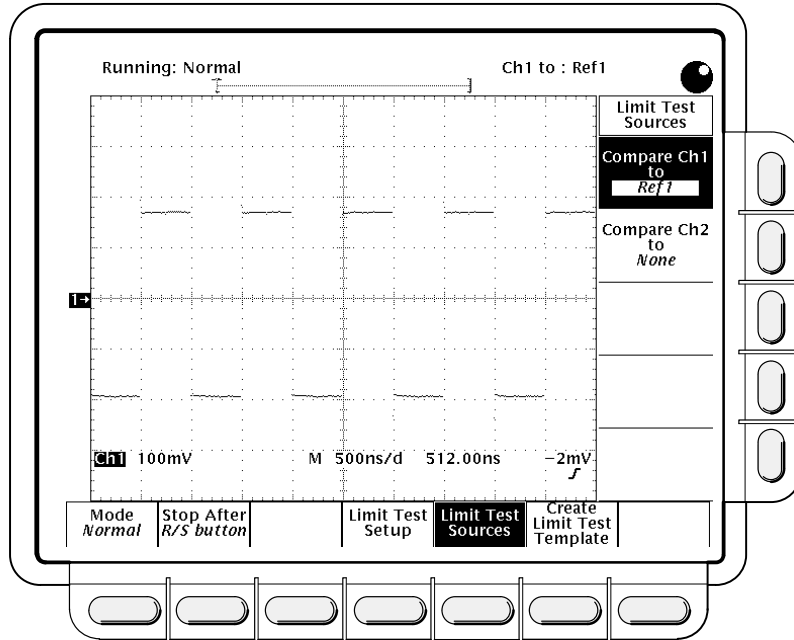

Figure 3-30: Acquire Menu—Limit Test Sources
1. Press **SHIFT ACQUIRE MENU → Limit Test Sources** (main) to specify which waveforms to compare to the template. (See Figure 3-30.)